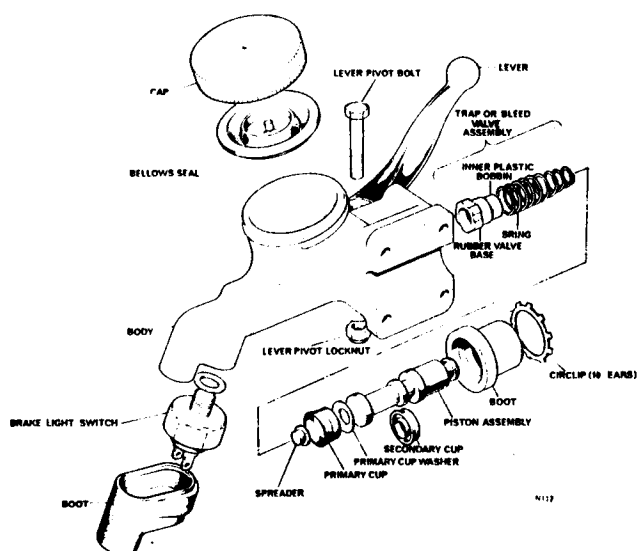

Fig. H7 Master Cylinder—Exploded view
- 12 Restore the master cylinder level as in *Fig. H7* using Lockheed Series 329 fluid and replace the bellows seal and cap.
Master Cylinder Dismantling — See Fig. H7